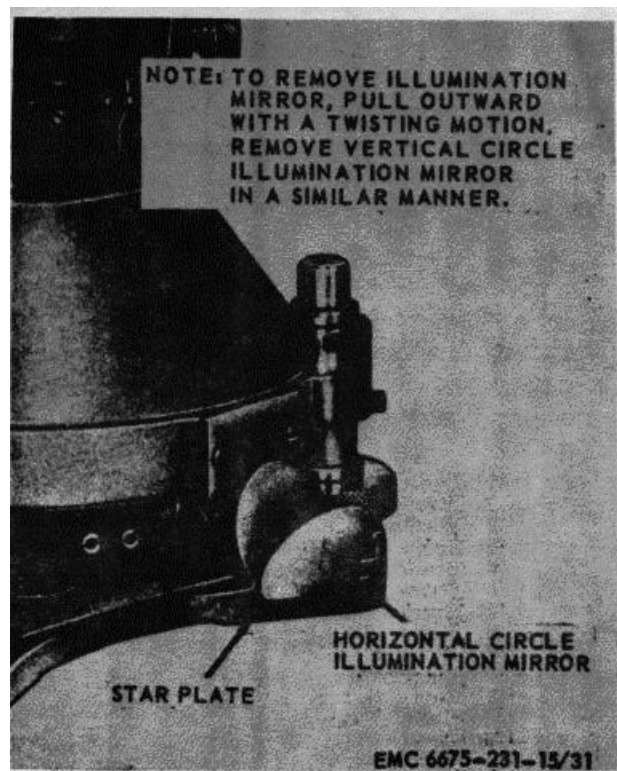

Figure 33. Illumination mirrors, removal and installation.
a. *Removal.* Refer to figure 33 and remove the illumination mirrors.
- (1) Clean all metal parts with an approved cleaning solvent and dry thoroughly. Clean the mirror with a camel's-hair brush, if dusty; clean with a chamois, if foggy.
- (2) Inspect the hinge action for stiff or loose movement. Oil sparingly, if necessary, and wipe off all excess oil.
- (3) Inspect for a cracked or broken mirror. Inspect the metal mount for bends, cracks, and breaks.
- (4) Replace a damaged or defective mirror assembly.
c. *Installation.* Refer to figure 33 and install the illumination mirrors.